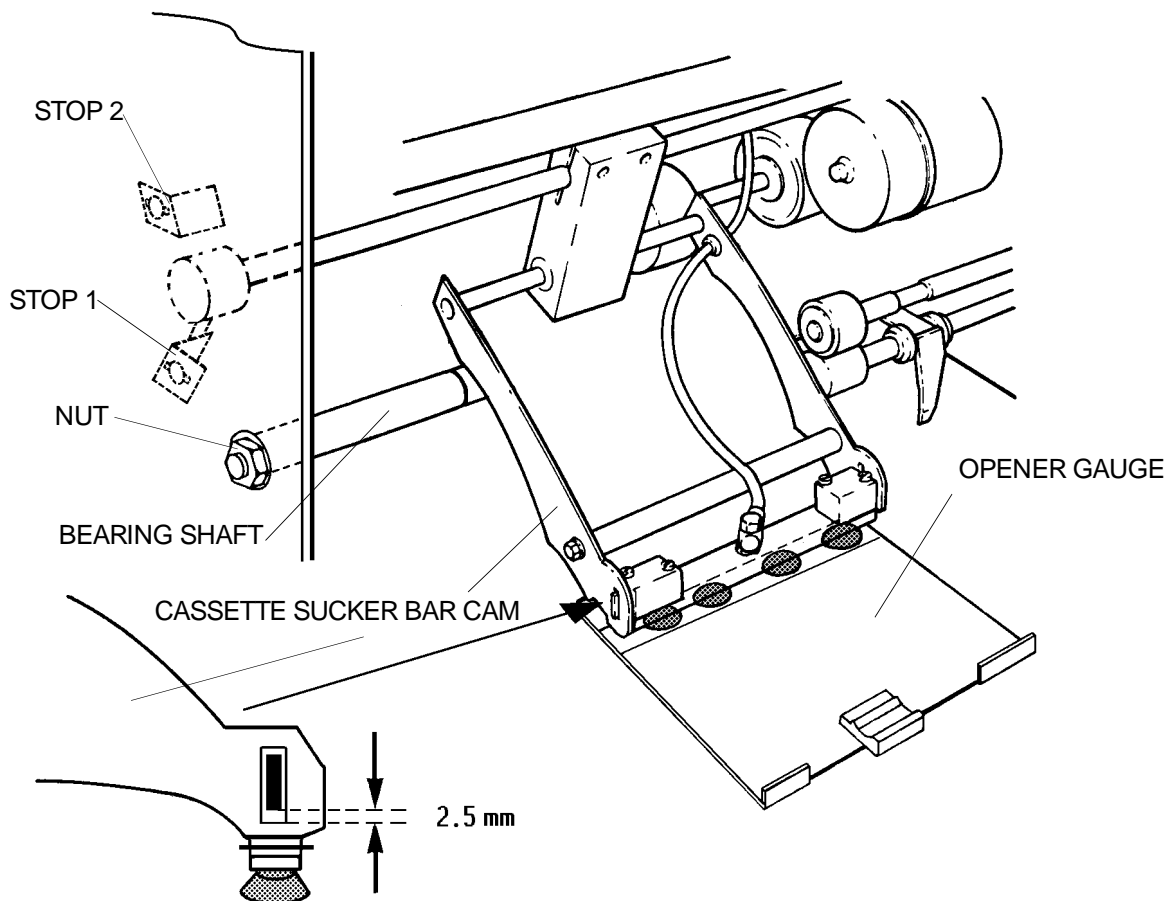

figure 28
- 13.1.** Move the CASSETTE SUCKER BAR on OPENER GAUGE 9193386 as shown on figure 28 by turning the DRIVE SHAFT by hand. If necessary loosen STOP 1.
- 14.** Key in 2, 1 (BACK, TAKE) and check if CASSETTE SUCKER BAR is located on OPENER GAUGE as shown on figure 28. If necessary readjust SWITCH S11 (CSI).
- 15.** When CASSETTE SUCKER BAR is located on OPENER GAUGE as shown in figure 28 there should be a clearance of 2 mm between STOP SCREW and STOP 1.